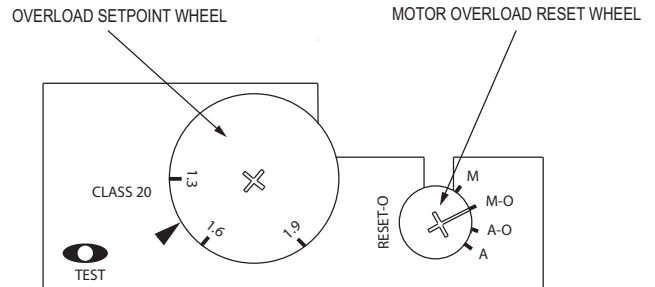

Fig. 31 — Motor Starter Setting
1. On the starter, adjust the Motor Overload to match the **FLA Rating** of the installed motor by turning the Overload Setpoint wheel to the appropriate value. See Fig. 31. Evaporator and condenser motor FLA ratings are listed in Table 12.